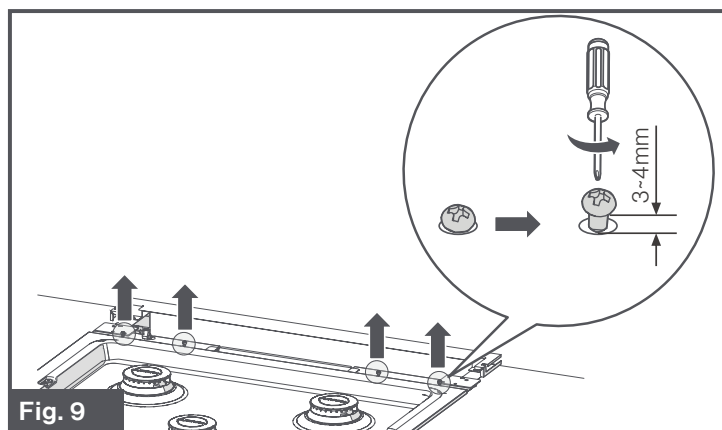

Fig. 9
1. Loosen the 4 screws on the rear of the cooktop and leave a gap of 3 to 4 mm. (Fig. 9)